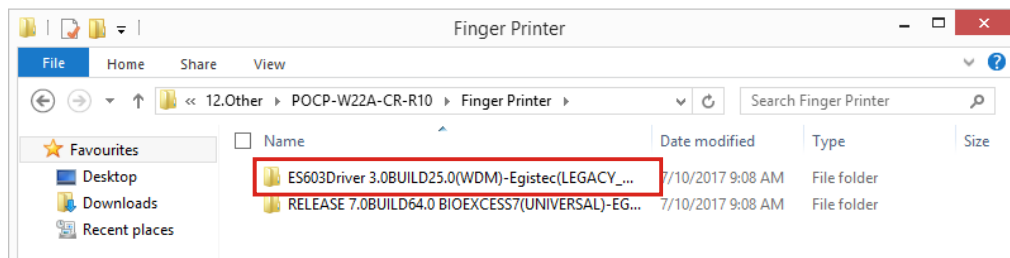

Figure 5-28: Fingerprint Reader Driver Folder
Step 2: The fingerprint reader driver is located in the following folder (**Figure 5-28**):